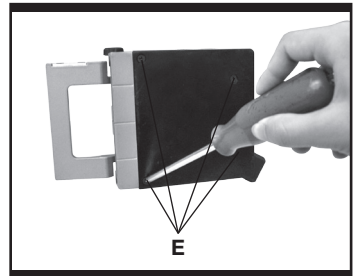

Fig. 8
5. REPLACING THE CUTTING DISC (See Fig.8, 9)